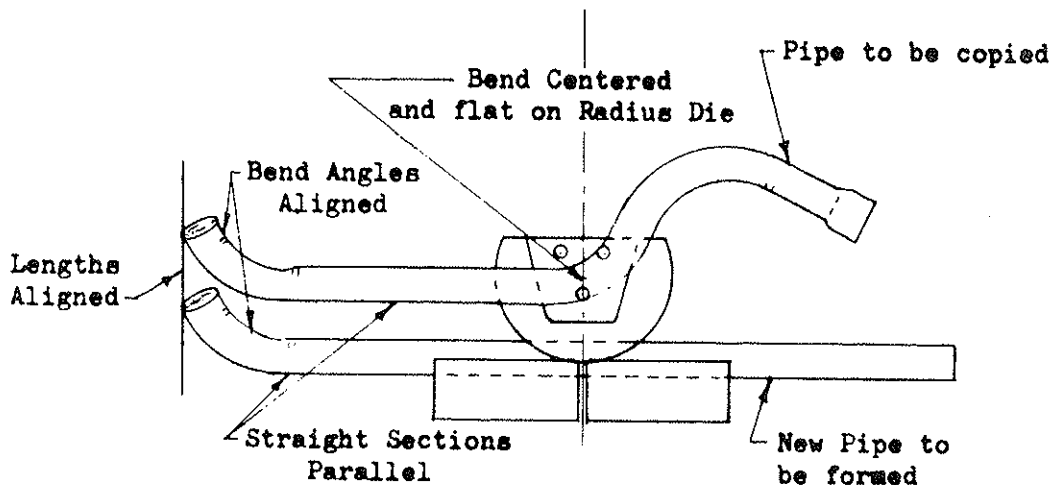

Figure 2
3. Place old pipe to be copied flat on top of the radius die with the center of the first bend aligned with the center of the radius die and split between the two back shoes. (See Fig. 2).